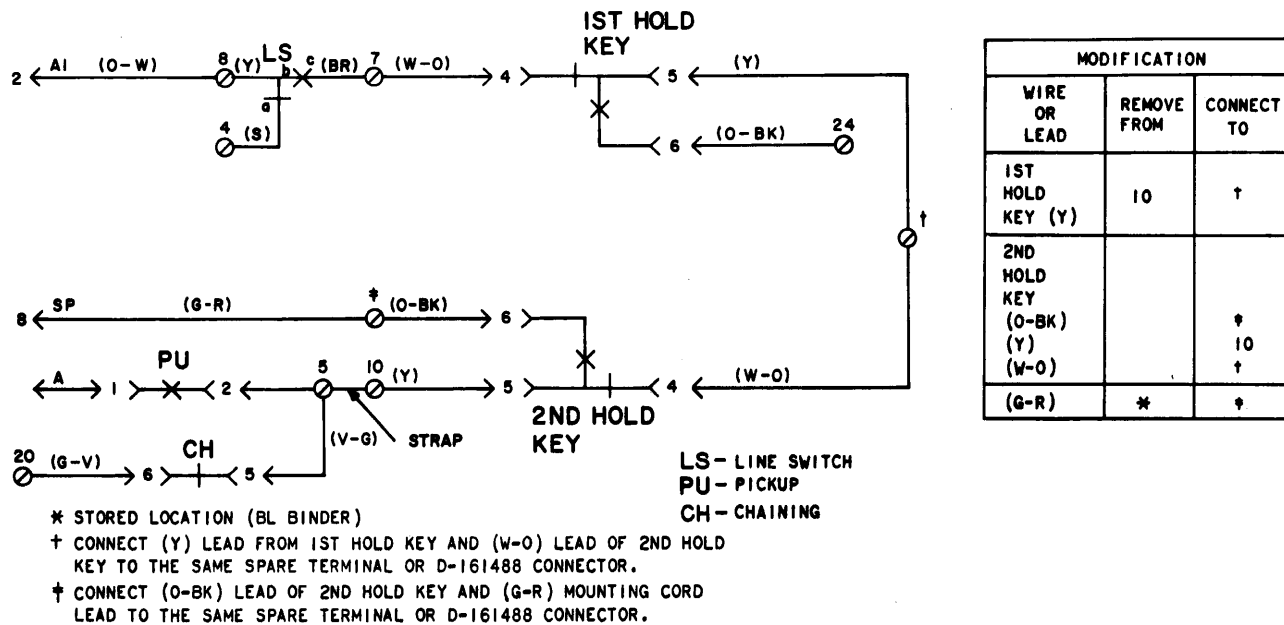

Fig. 6—Modification for Priority Hold
- (3) Place the pink plug assembly from the kit of parts into the hold position on the 635A5C key. Insulate and store the white set plug. Place remaining set plugs into their proper positions on the key.
- (4) Make the necessary wiring connections and modifications as shown in Fig. 6.♦